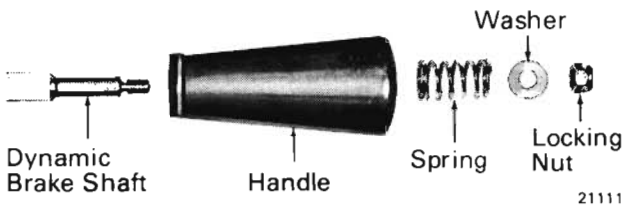

Fig.6 - Dynamic Brake Handle Removal
13. Remove 5/16"-24 self-locking nut and flat washer securing handle, Fig. 6, to dynamic brake shaft. Nut and washer are recessed in end of handle.